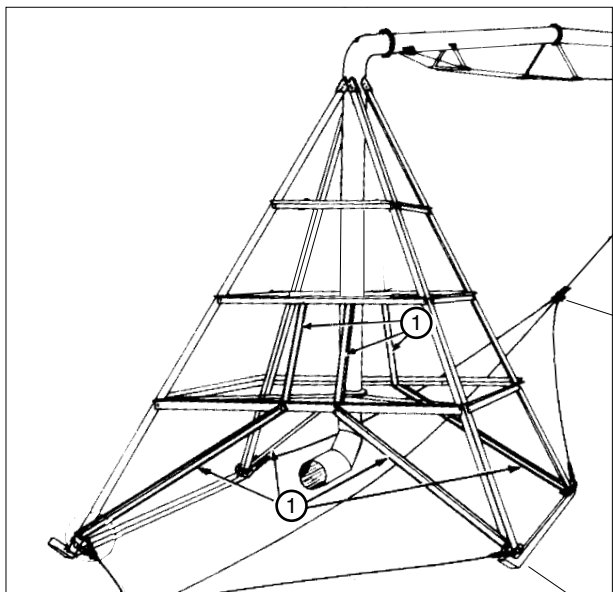

Figure 30-3 1. Tow Brace
5. Make sure that the skid pivot is equipped with tow braces. See figure 30-3.